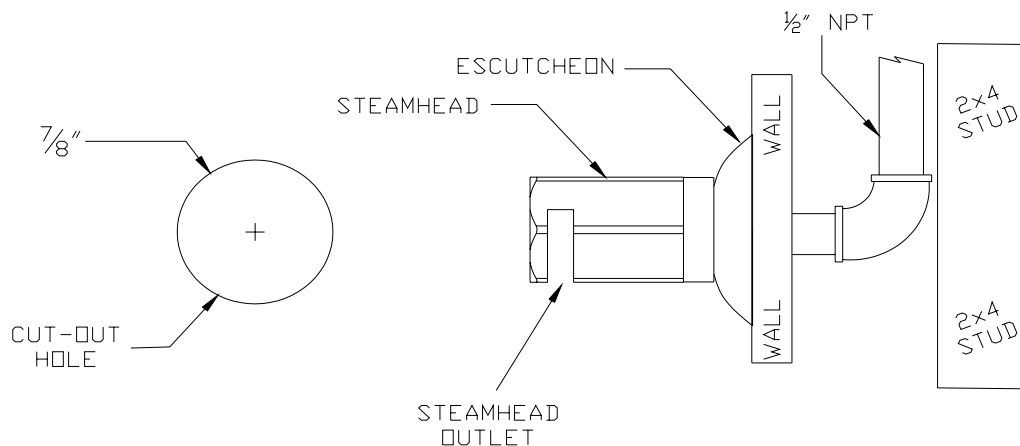

Figure 8
2. Connect 1/2" F.I.P. copper pipe or copper tubing and 1/2" brass union onto the steam outlet. Run a 1/2" copper pipe from the union to the 7/8" hole in wall. See figure 8.